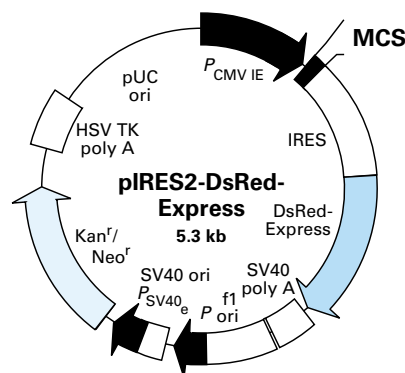

Figure 2. Map of the Fluorescent pIRES2 Bicistronic Expression Vectors.
Figure 2. The Adeno-X Tet-On 3G Systems are highly inducible. Using equal amounts of high-titer supernatants, HeLa cells cultured at the indicated concentrations of Dox were infected with Adeno-X Tet-On 3G LacZ virus. Cultures were harvested and assayed for beta-galactosidase activity using the Luminescent Beta-gal Reporter System 3 (Cat. No. 631713).
tion, but its expression depends on the E1 gene product. Thus, E1 trans-complementing cell types such as HEK 293 (3) can be used to measure infectious activity because only infected cells will produce the hexon protein. The Rapid Titer assay takes 1–2 hours to set up and another 3 hours (two days later) to label, stain, and count infected cells. Each stained cell corresponds to a single infectious unit (Figure 2).
Figure 2. With the Adeno-X Rapid Titer Kit, infected cells turn brown, so they are easily counted using a microscope. Healthy HEK 293 cells ($5 \times 10^5/\text{ml}$) were added to each well (1 ml/well) of a 12-well culture plate and then infected with various dilutions of an adenovirus stock according to the Adeno-X Rapid Titer Protocol. Following a 48 hr incubation, infected cells were identified by adding mouse anti-hexon antibody, HRP-conjugated rat anti-mouse antibody, and DAB substrate. This microscope image, taken with a 20X objective, shows a field of infected cells in a well that received a 10^{-5} viral dilution.
pIRES Bicistronic Expression Vectors allow you to rapidly and efficiently select positive clones that express your target protein. They include a cassette that expresses both your gene of interest and a selection marker (Figure 1) or **Living Colors® Fluorescent Protein** (Figure 2) from a single promoter, so that virtually all transfected cells expressing the marker also express your gene of interest. With these vectors, you can screen fewer colonies to locate clones expressing high levels of your protein.
- Detect protein-protein interactions with coimmunoprecipitation assays (Figure 2).
Figure 2. Use ProLabel to quantify protein coimmunoprecipitation. Protein complexes formed between SV40T and p53 (which strongly interact), and SV40T and lamin (which do not specifically interact) were analyzed by immunoprecipitation. In both instances, SV40T was tagged with ProLabel, while p53 and lamin were each fused to AcGFP1. The fusion proteins were coexpressed in HEK 293 cells and then complexes were immunoprecipitated from cell lysates using an anti-AcGFP1 antibody. Coimmunoprecipitation was indicated by increased chemiluminescence, as measured by our ProLabel Chemiluminescent Detection Kit. SV40T = SV40 large T antigen. Lam = lamin. (1, 3)